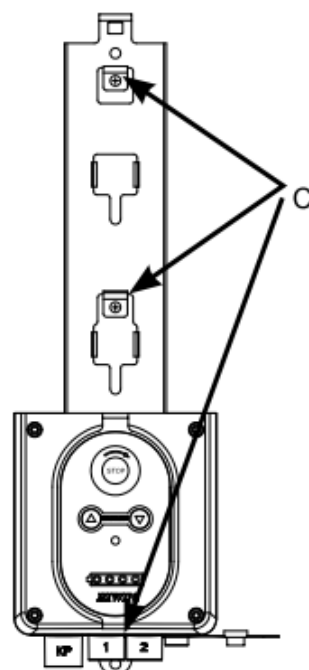

Fig. 2
- 2.1.4 Install a support on the position, and fix on C point by screws (Fig. 2).